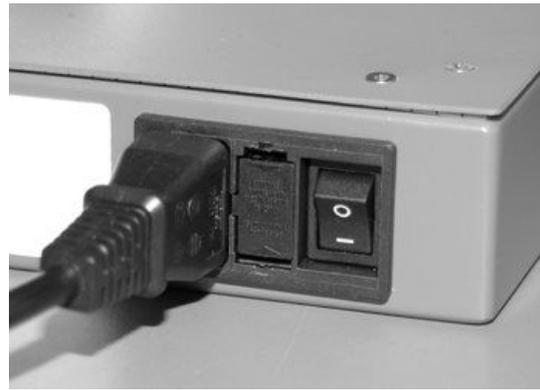

Figure 3-5: Connection of the mains cable.
The specifications of the power supply unit (PSU) of the HU are listed in Table 3-4. Ensure that the ON/OFF switch is in the OFF (O) position before connecting the IEC mains cable to the Hub (Figure 3-5). Plug the mains cable into an outlet providing AC power with a voltage of 100 – 240 VAC and a frequency of 47 – 63 Hz.